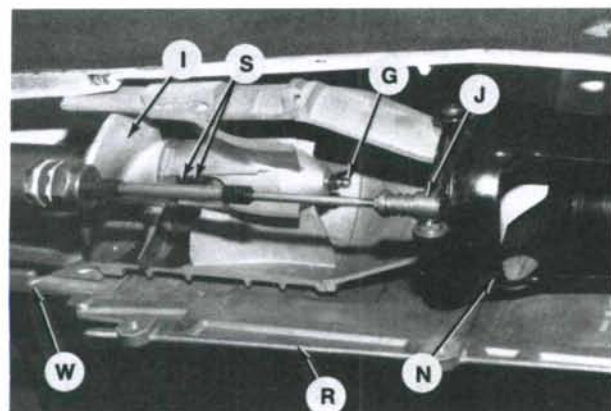

Fig. JS1-38—Cutaway view of jet pump assembly and related components.
Remove jet pump water intake grill (W—Fig. JS1-38) and cover (R). Detach steering linkage joint (J) at ball joint on steering nozzle (N). Remove bilge siphon hose and cooling system supply hose from fittings on jet pump housing. Remove four jet pump mounting cap screws (two at front and two at rear).
Remove grease fitting (G—Fig. JS1-38) at rear of jet pump housing. Install impeller on drive shaft and tighten using hand pressure. Do not overtighten impeller. Lightly grease lips of jet pump housing grease seals and rear surface of drive shaft with Shell MP or Alvania EP1 grease. Apply Loctite Superflex or a suitable RTV silicone sealer on mounting flanges of jet pump housing and on jet pump intake area where intake mates with vehicle hull. Slide jet pump
assembly onto drive shaft. Thickness of shims located under jet pump housing mounting flanges must be adjusted so clearance (C—Fig. JS1-39) between impeller and impeller housing is at least 0.1 mm (0.004 in.) measured throughout entire impeller circumference. Tighten jet pump housing mounting cap screws, then recheck impeller-to-impeller housing clearance. After recommended clearance is obtained, remove each jet pump housing mounting cap screw and apply Loctite Stud N'Bearing Mount or a suitable equivalent on threads of each screw, then install and tighten to 22 N·m (16 ft.-lbs.). Install grease fitting (G—Fig. JS1-38) and inject Shell MP or Alvania EP1 grease through grease fitting as needed. Reconnect bilge siphon hose and cooling system supply hose onto fittings on jet pump. Reattach steering linkage joint (J) onto ball joint on steering nozzle (N). Install jet pump cover (R) and water intake grill (W) and tighten retaining screws to 10 N·m (88 in.-lbs.).
R&R AND OVERHAUL. Disconnect battery cables from battery. Remove jet pump water intake grill (W—Fig. JS1-38) and cover (R). Detach steering linkage joint (J) at ball joint on steering nozzle (N). Remove bilge siphon hose and cooling system supply hose from fittings on
Remove grease fitting (G) at rear of jet pump housing. Install impeller on drive shaft and tighten using hand pressure. Do not overtighten impeller. Lightly grease lips of jet pump housing grease seals and rear surface of drive shaft with Shell MP or Alvania EP1 grease. Apply Loctite Superflex or a suitable RTV silicone sealer on mounting flanges of jet pump housing and on jet pump intake area where intake mates with vehicle hull. Slide jet pump assembly onto drive shaft. Install shims located under jet pump housing mounting flanges in original locations. Tighten jet pump housing mounting cap screws, then check impeller-to-impeller housing clearance. Clearance (C—Fig. JS1-39) should not exceed 0.87 mm (0.034 in.) measured between impeller and impeller housing throughout entire impeller circumference. Adjust thickness of shims located under jet pump housing mounting flanges if measured clearance is not equal around impeller circumference. If measured clearance is beyond recommended limit, then renew excessively worn or damaged component. After correct setting is obtained, remove each jet pump housing mounting cap screw and apply Loctite Stud N'Bearing Mount or a suitable equivalent on threads of each screw, then install and tighten to 22 N·m (16 ft.-lbs.). Install grease fitting (G—Fig. JS1-38) and inject Shell MP or Alvania EP1 grease through grease fitting as needed. Reconnect bilge siphon hose and cooling system supply hose onto fittings on jet pump. Reattach steering linkage joint (J) onto ball joint on steering nozzle (N). Install jet pump cover (R) and water intake grill (W) and tighten retaining screws to 10 N·m (88 in.-lbs.).
ADJUSTMENT. With steering handlebar in straight ahead position, jet pump steering nozzle (N—Fig. JS1-38) should be centered or at a 90 degree angle to stern of vehicle. If not, raise handle pole and loosen locknut (L—Fig. JS1-41) below steering linkage joint (T). Remove joint (T) from ball joint on handlebar pivot plate. Rotate joint (T) up or down threaded end of steering cable as needed to properly center jet pump steering nozzle. After correct adjustment is obtained, reinstall steering linkage joint (T) onto ball joint and tighten locknut (L).
NOTE: If steering linkage joint (T) must be rotated out to where minimal threads on steering cable engage joint (T), then rotate joint (T) onto threaded end of steering cable to obtain safe thread engagement and complete adjustment on joint (J—Fig. JS1-38) at jet pump.